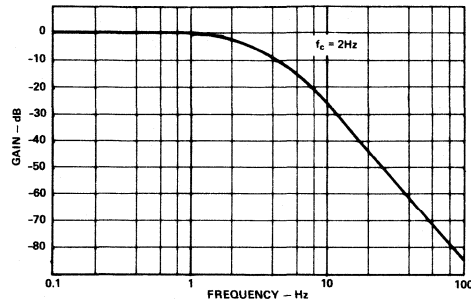

Figure 11. Filter Amplitude Response vs. Frequency
**Low Pass Filter:** The three pole Bessel-type active filter attenuates unwanted high-frequency components of the input signal above its cutoff frequency ( $-3\text{dB}$ ) with  $60\text{dB}/\text{decade}$  roll-off. With a 2Hz filter, attenuation of  $70\text{dB}$  at  $60\text{Hz}$  is obtained, settling time is  $600\text{ms}$  to  $0.1\%$  of final value with less than 1% overshoot response to step inputs. Figure 11 shows the filter response.